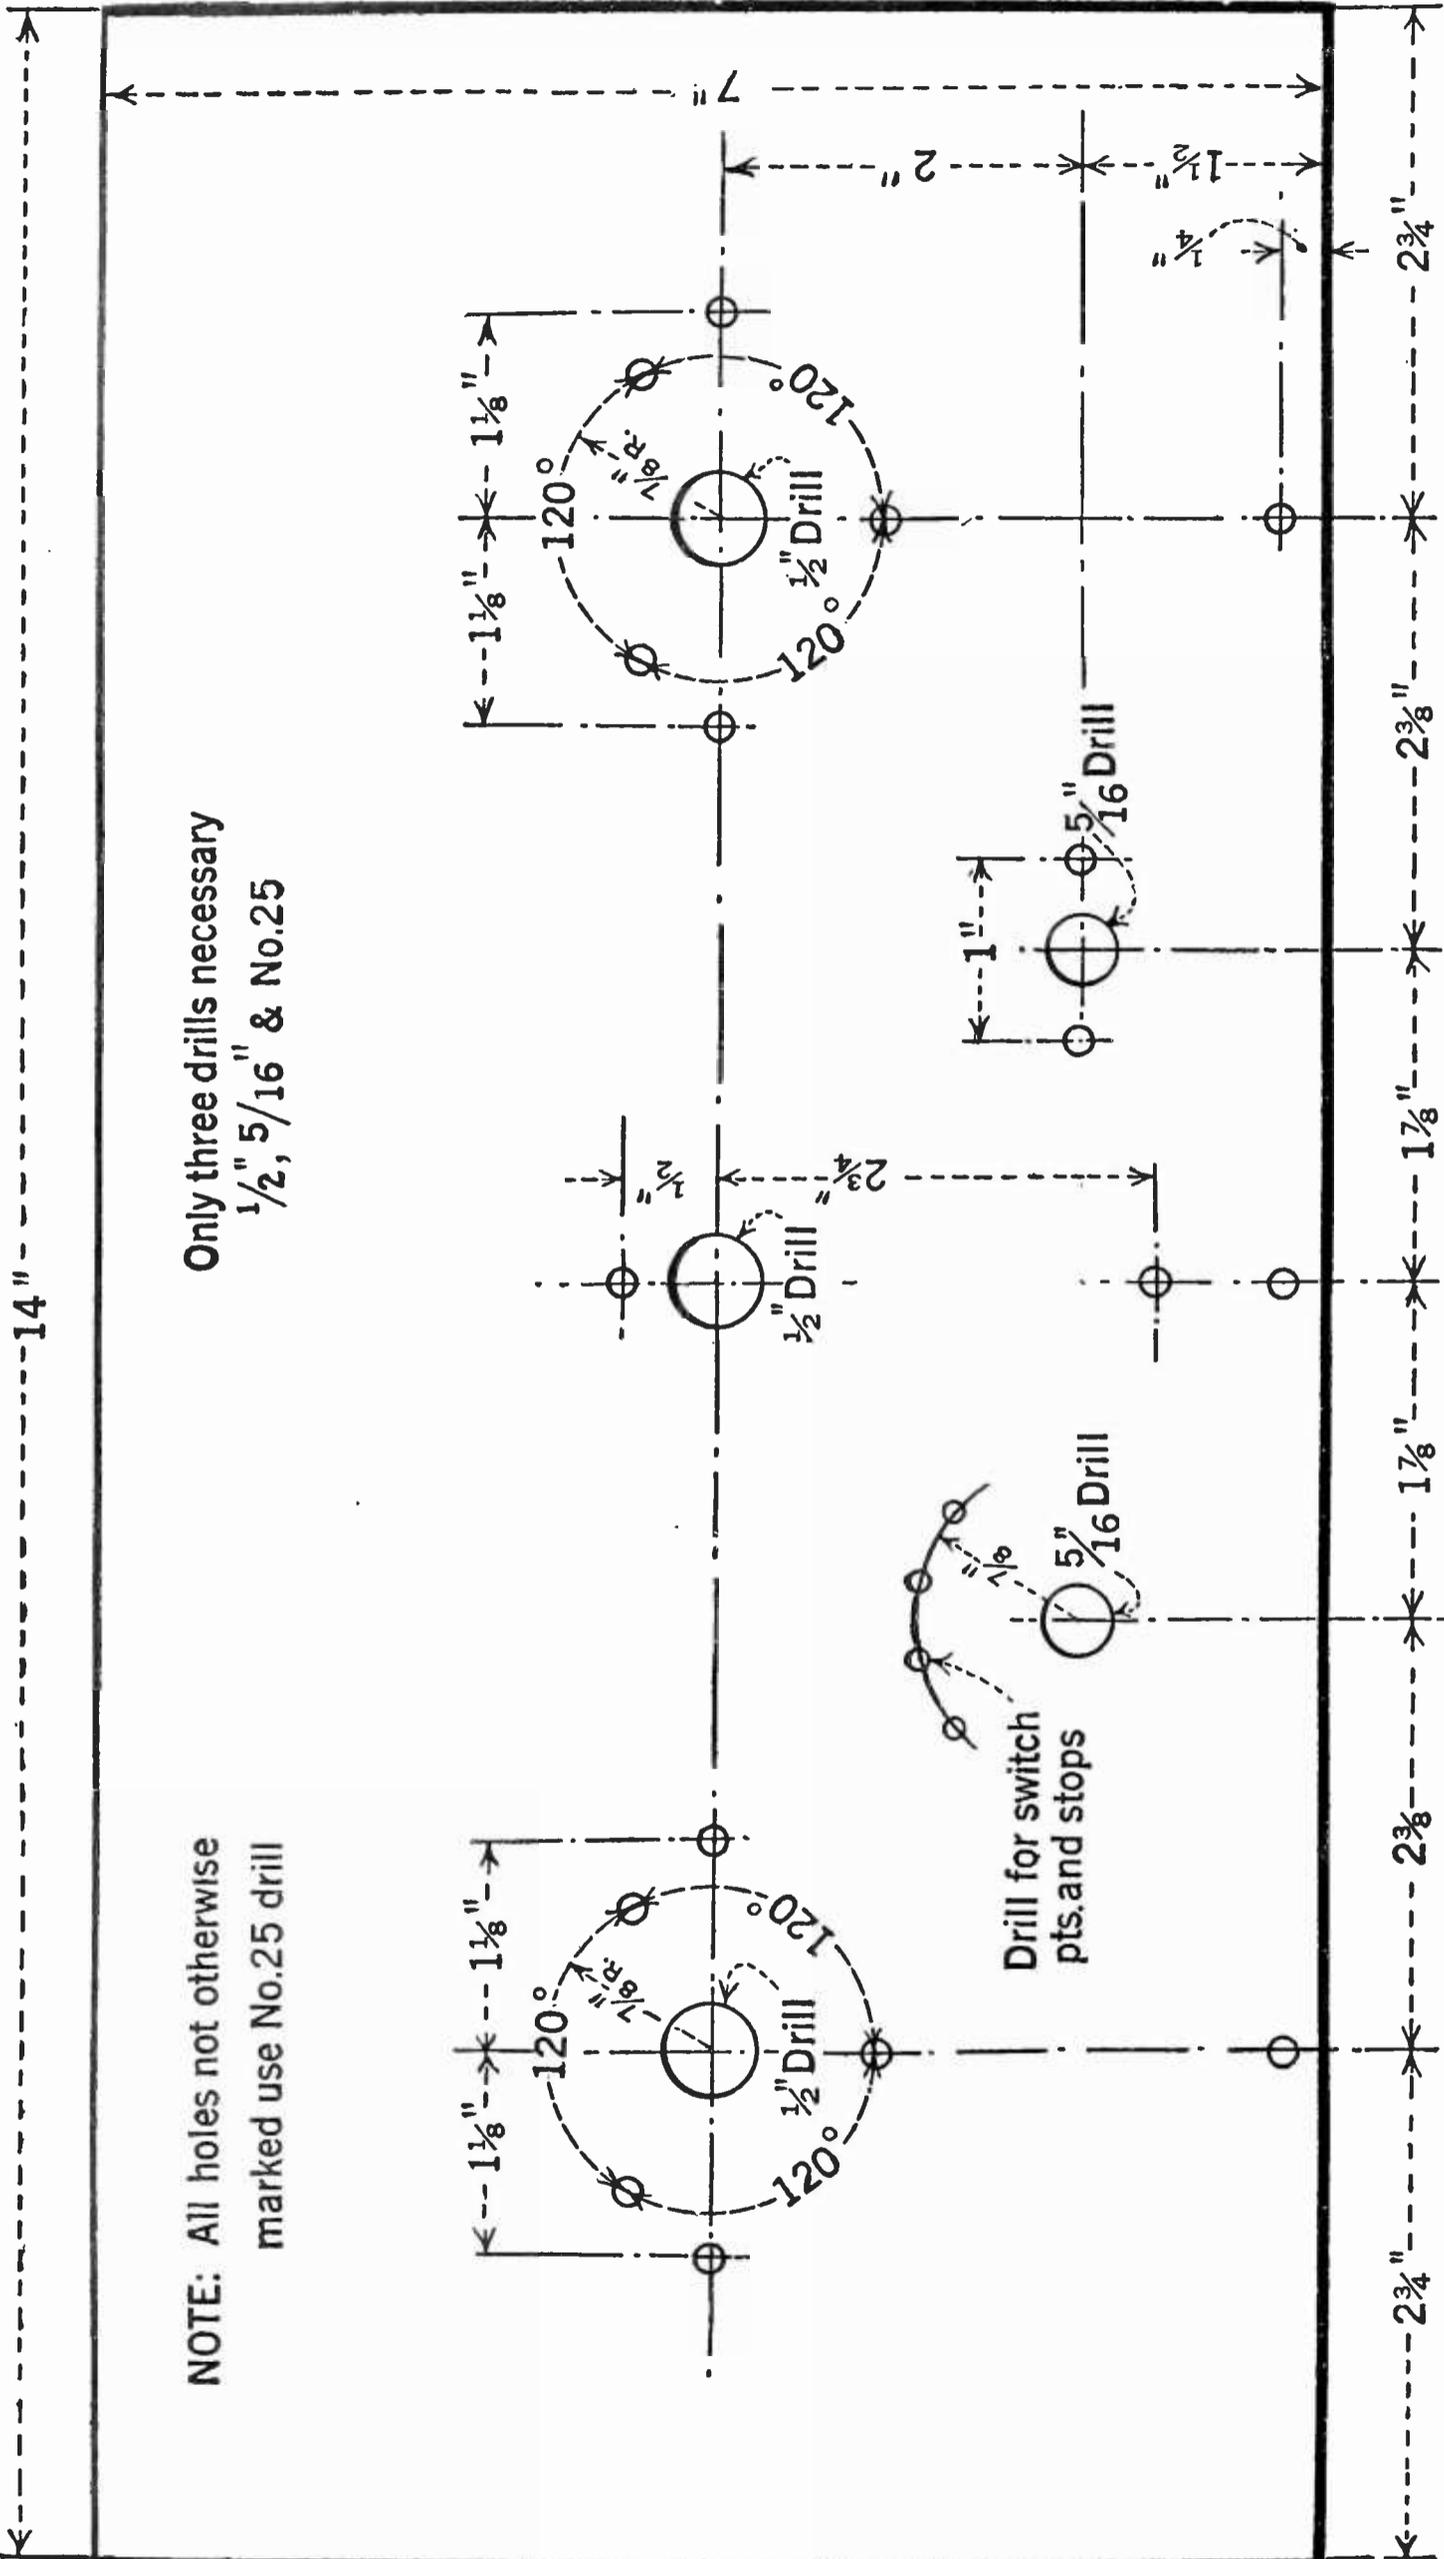

FIG. 7
- 17 1 Oscillator Coupler as per Fig. 7; coupler includes two coils as per description later in this article.